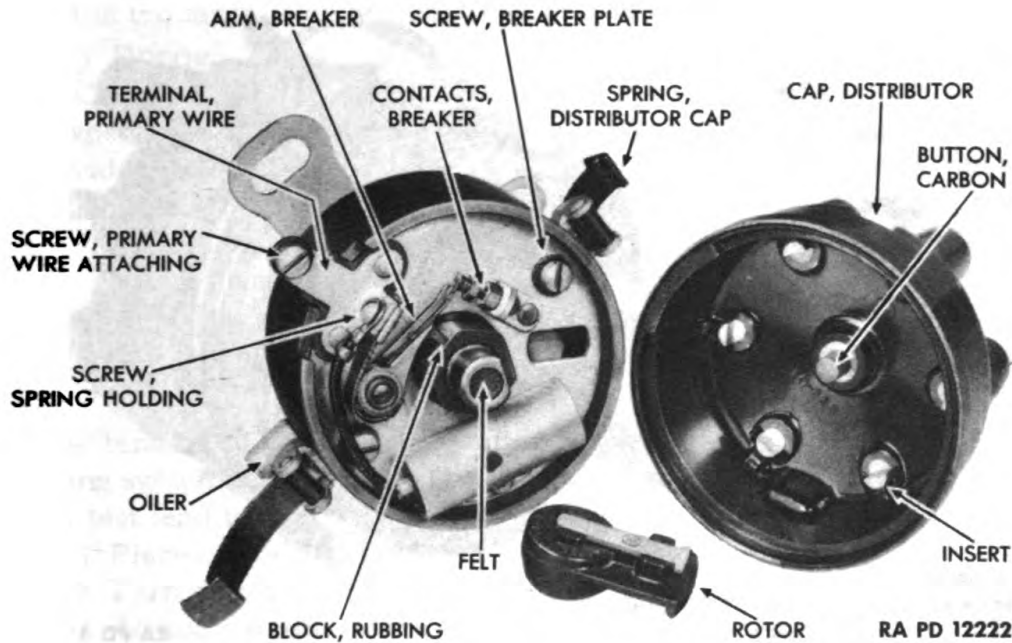

Figure 192—Distributor with Cap and Rotor Removed
- (1) Remove distributor cap, and lift rotor from shaft (fig. 192).
- (2) Remove the 2 screws and lock washers which hold breaker plate assembly to shaft and governor assembly (fig. 192). Lift breaker plate assembly out of base (fig. 194).
(b) Inspect the inserts (fig. 192) on inside of cap. After a distributor has had normal use the vertical face of the inserts becomes slightly burned. Clean with refined CARBON TETRACHLORIDE. NOTE: Do not file. If the burning is excessive replace the cap.
Inspect the breaker contacts (fig. 192). If they are a grayish color and only slightly pitted, they need not be replaced. Make sure breaker arm turns freely on its pivot without excessive side play. Replace rough or pitted breaker contacts. If it is necessary to reinstall the old breaker contacts, hone them, on a stone before reinstalling, to a smooth, flat surface. NOTE: Do not file.